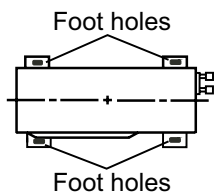

Fig.20
- (1) Place the outdoor unit on the support.
- (2) Fix the foot holes of outdoor unit with bolts.
- (As show in Fig.20)